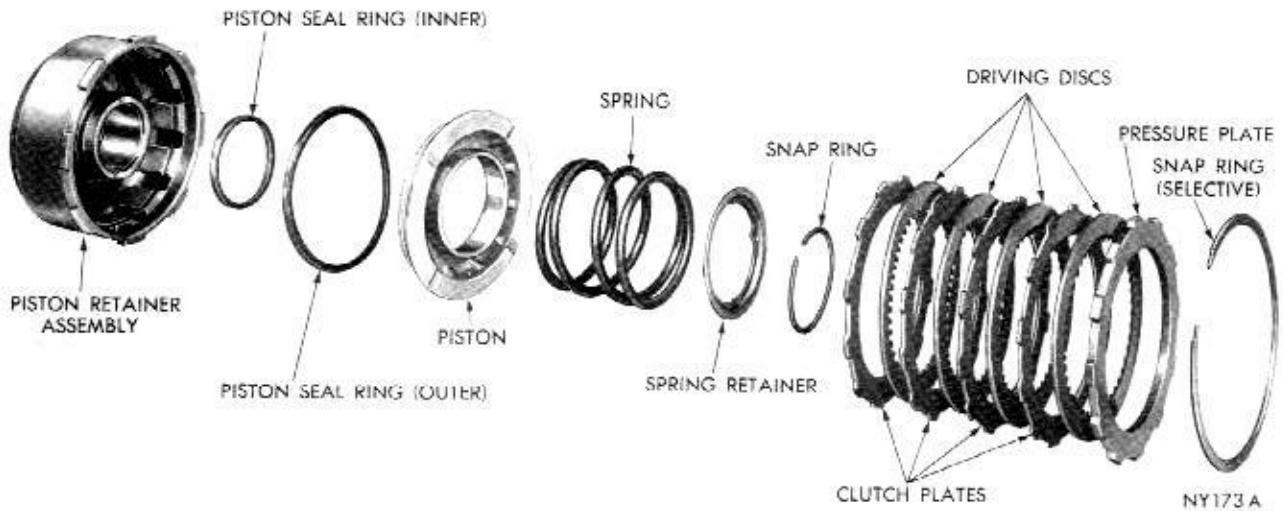
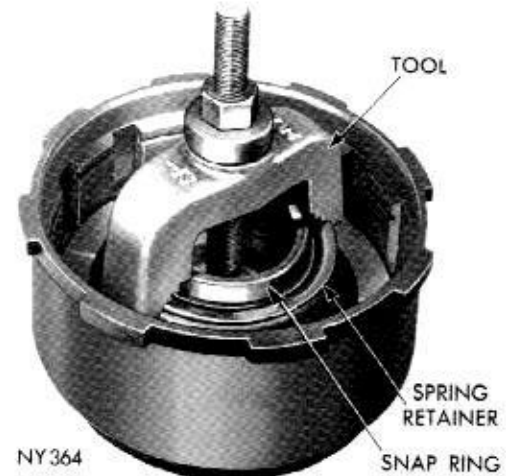

Fig. 54—Front Clutch Disassembled (A-904)
Fig. 55—Removing or Installing Front Clutch Retainer Snap Ring (A-904)
Figure 54 shows a disassembled view of the front clutch assembly.
(1) Remove large selective snap ring that secures pressure plate in the clutch piston retainer. Lift pressure plate and clutch plates out of the retainer.
(2) Install compressor, Tool C-3575 over piston spring retainer (Fig. 55). Compress spring and remove snap ring, then slowly release tool until spring retainer is free of the hub. Remove tool, retainer and spring.
(3) Invert clutch retainer assembly and bump it on a wood block to remove the piston. Remove seal rings from the piston and clutch retainer hub.
(1) Lubricate and install inner seal ring on hub of clutch retainer. Make sure lip of seal faces down and is properly seated in the groove (Fig. 54).
(2) Lubricate and install outer seal ring on clutch piston, with lip of seal toward bottom of clutch retainer. Place piston assembly in retainer and, with a twisting motion, seat piston in bottom of retainer.
(3) Place spring on piston hub and position spring retainer and snap ring on the spring. Compress spring with Tool C-3575 (Fig. 55), and seat snap ring in hub groove. Remove compressor tool.
(4) Lubricate all clutch plates, install one steel plate followed by a lined plate until all plates are installed. Install pressure plate and selective snap